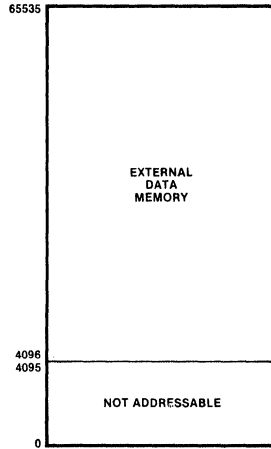

Figure 5. Data Memory Map
**Data Memory.** The Z8611 can address 60K bytes of external data memory beginning at location 4096 (Figure 5). External data memory may be included with or separated from the external program memory space. DM, an optional I/O function that can be programmed to appear on pin P34, is used to distinguish between data and program memory space.